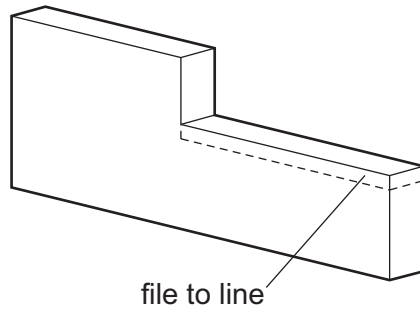

Fig. 6
- 9 Explain the purpose of the safe edge on a hand file when filing the corner of the shape in Fig. 6.